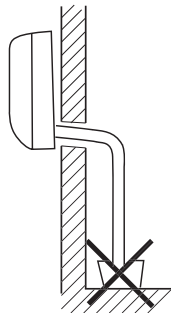

Fig. 9.2 Avoiding submerging the end.
- If the drain is run to a tank or butt, avoid installing the condensed water pipe with its free end submerged in water (see Figure 9.2).